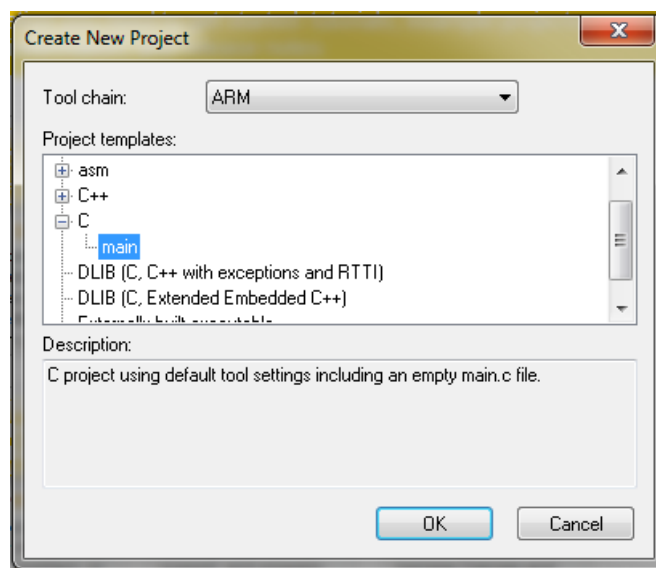

Figure 1-39. Create New Project dialog
2. In the main menu, select Project > Create New Project... so that the "Create New Project" dialog appears. See Figure 1-39.